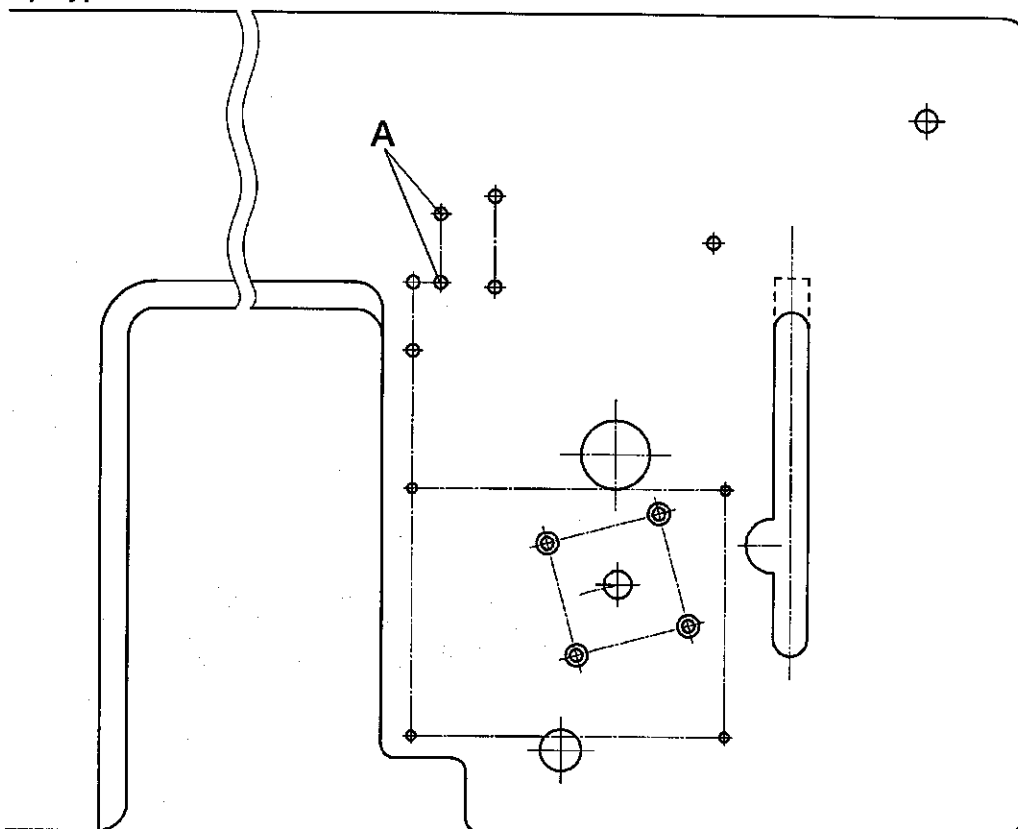

Fig. 1
Fix the tension roller holder ① on the position A in Fig. 1.